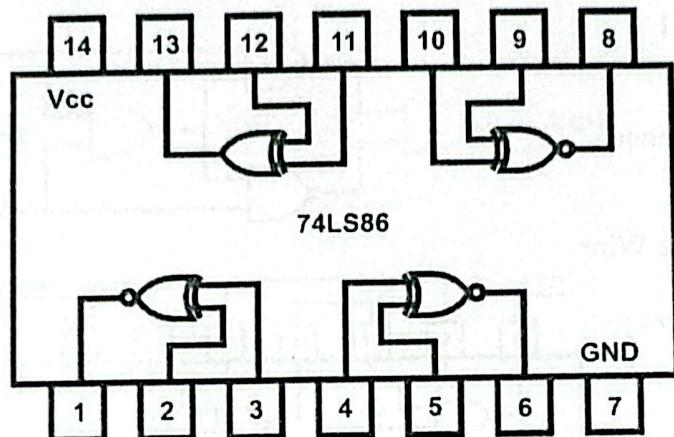

Fig. 7.2
4. Wire the circuit according to the diagram in figure 7.1 by consulting XOR gate IC's data sheet in fig 7.2.